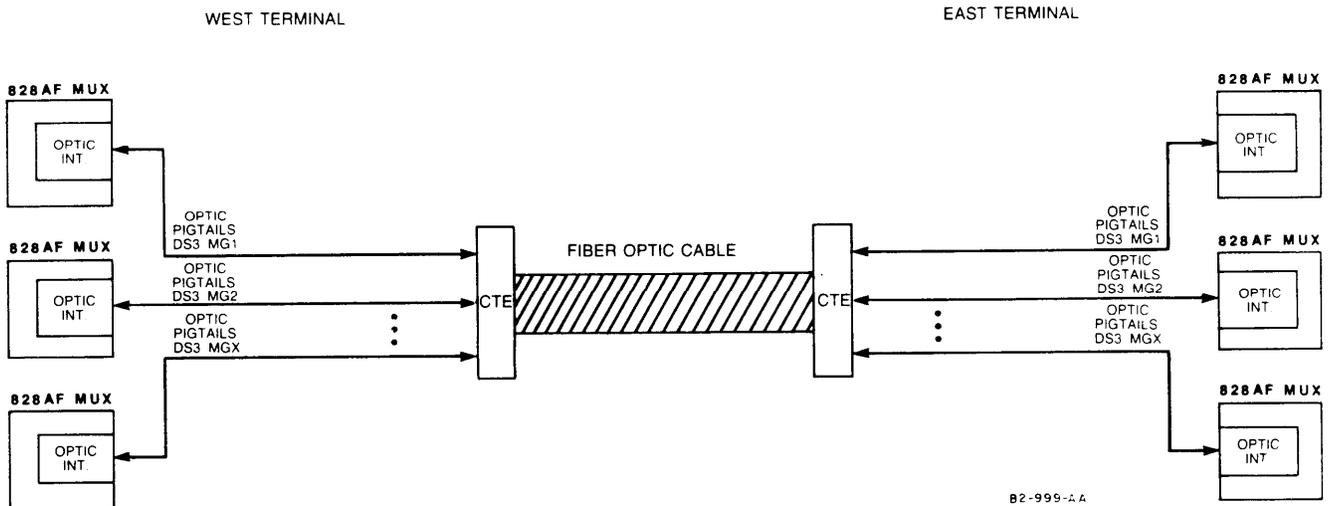

Figure 1-6. 828AF Digital Multiplexer Fiber-Optic Terminal Application
5.02 Figure 1-6 illustrates the 828AF in a fiber-optic terminal application. Incoming DS-1, DS-1C, or DS-2 data streams are multiplexed to the DS-3 level. The DS-3 optical signal is interfaced to a fiber cable span and transmitted as a 45 Mb/s optical carrier.